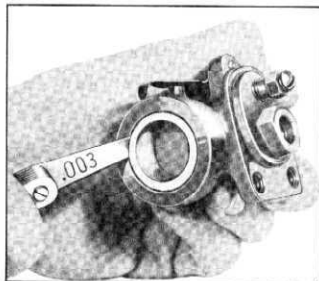

Fig. 31—Checking Wheel Cylinder Piston Fit
3. Check fit of the piston in the cylinder bore, using a feeler gauge (fig. 31). This clearance should be from .002"-.004".